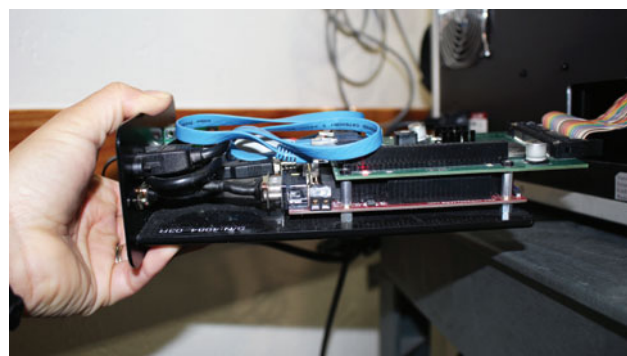

Figure 2. Slide the instrument controller board out of the instrument.
3. Remove the thumb screws and slide the instrument controller board out of the instrument (**Figure 2**).